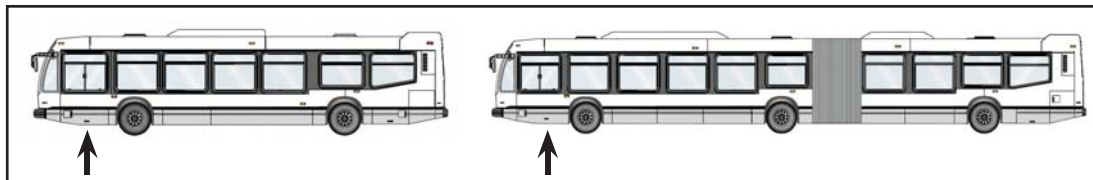

Figure 1 - Location of the Compartment Door Under the Driver's Seat
- 1.1. Open the street side compartment door under the driver's seat. See Figure 1.